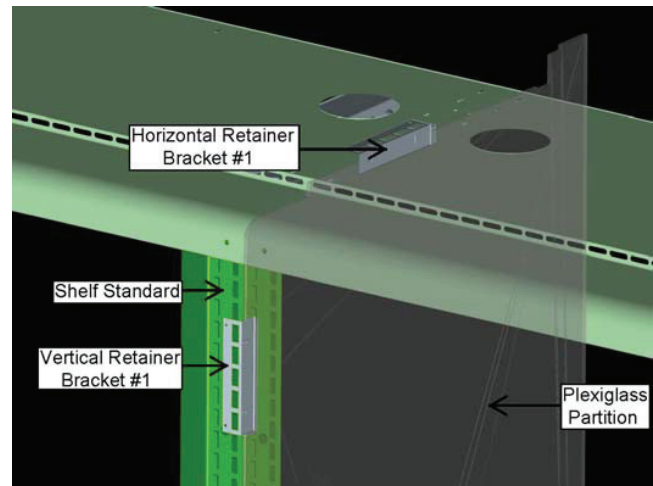
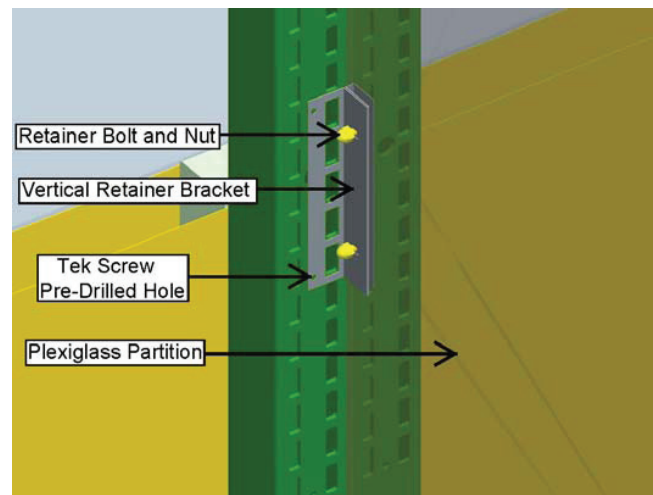

Figure 1: Top of Plexiglas Partition
Figure 3: Vertical Retainer Bracket Installation
Step 1: Mount the two vertical retainer brackets to the shelf standard (figures 1 & 2) using the supplied tek screws (8-18x3/4). The rectangular cutouts in the retainers must align with the rectangular slots in the shelf standard. Vertical Retainer Bracket #1 should be located below the 3rd slot from the top and Vertical Bracket #2 should be located above the 6th slot from the bottom. The grooves in the vertical retainer brackets must be centered on the case to case joint. The tek screws are to be drilled through the pre-drilled holes in the retainer brackets as shown in figure 3. Note that the vertical and horizontal retainer brackets are identical.
Step 2: Slide the Plexiglas partition into the vertical retainer brackets. Use the supplied retainer bolts and nuts (8-32x1/2) to secure the Plexiglas partition to the vertical retainer brackets as shown in figure 3. Drill additional holes in the Plexiglas if the pre-drilled holes in the Plexiglas do not line up with the holes in the retainer brackets.